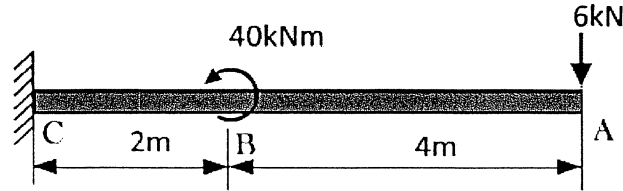

Figure Q2
- (b) A cantilever beam AC fixed at C carries a concentrated load and an external bending moment as shown in Figure Q2.